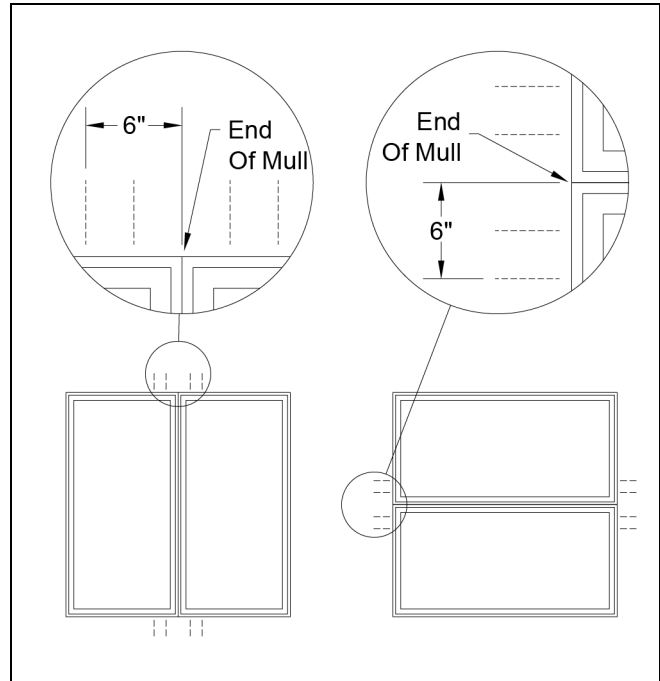

Figure 20 Mulls require additional fastening.
1. At **both ends** of any mull, fasten within 6" on each side of the mull with either of two ways: See Figure 20
- Two screws on each side of the mull through the window frame and into the rough opening (8 total per mull). Screws must penetrate into the framing by at least 1" (25).